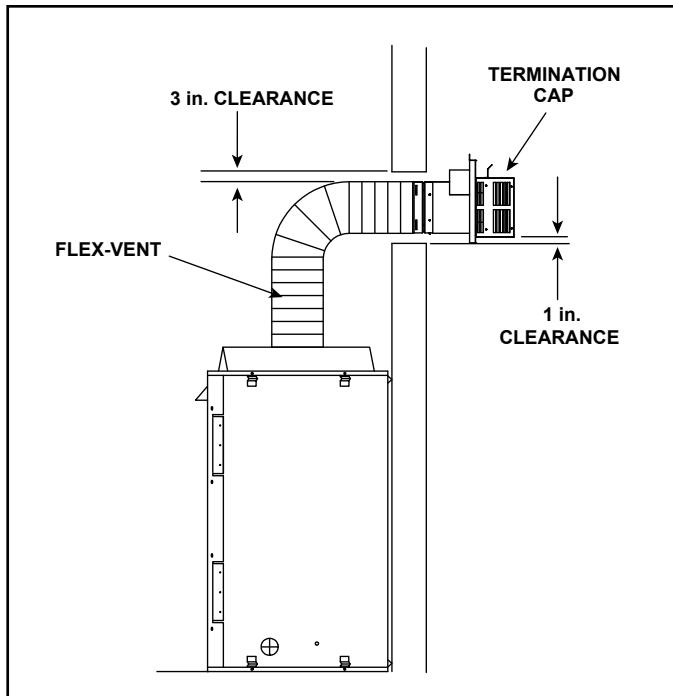

Figure 4.8 Flex Vent Pipe - Generic Fireplace Shown
A support is required at each change in venting direction, and in any location where it is necessary to maintain the necessary clearance to combustibles. A simple "up and out" installation (Figure 4.8) requires only enough support to maintain the necessary clearance to combustibles. However, the vent attachment point and the firestop location are considered to be supports.
**Note:** There MUST be a 25% reduction in total H when using SLP-FLEX Series (6-5/8 inch) vent except when using the simple up and out installation. See Figure 4.8.